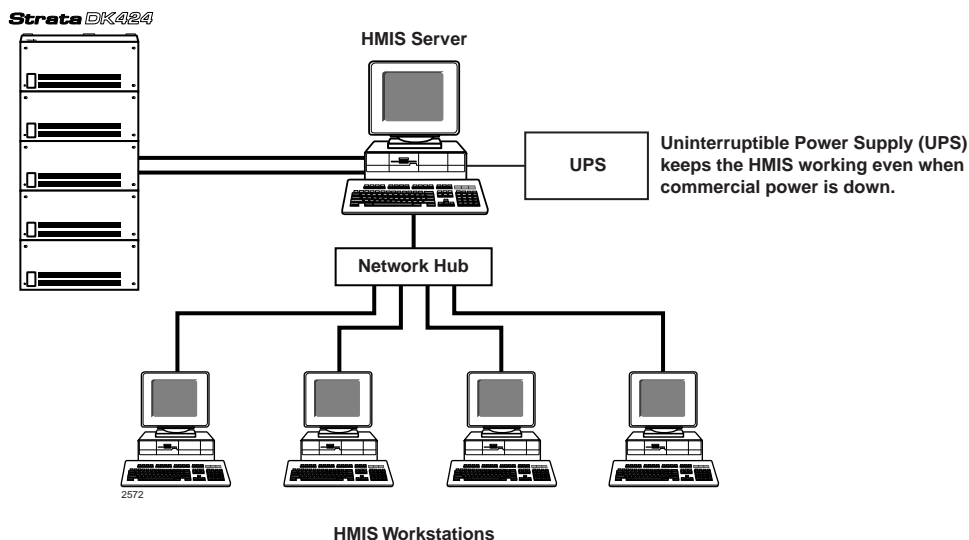

Figure 45 Server PC with Workstations
- ♦ An HMIS server with HMIS workstation PCs networked on a LAN to function as multiple front desk terminals (see Figure 45 below and “Multiple Front Desk PC Terminals” in the HMIS General Description). The configuration includes a five-port network hub which can support up to four workstations. Up to nine workstations can be connected using either a larger or multiple hubs.